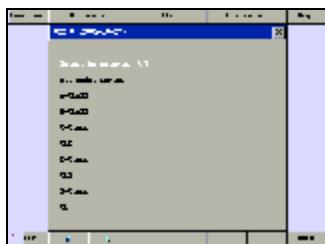

Fig.3.9
5. Select software version e.g. **V21.9** from the menu to enter mode/chassis type selection as shown in Fig.3.9.